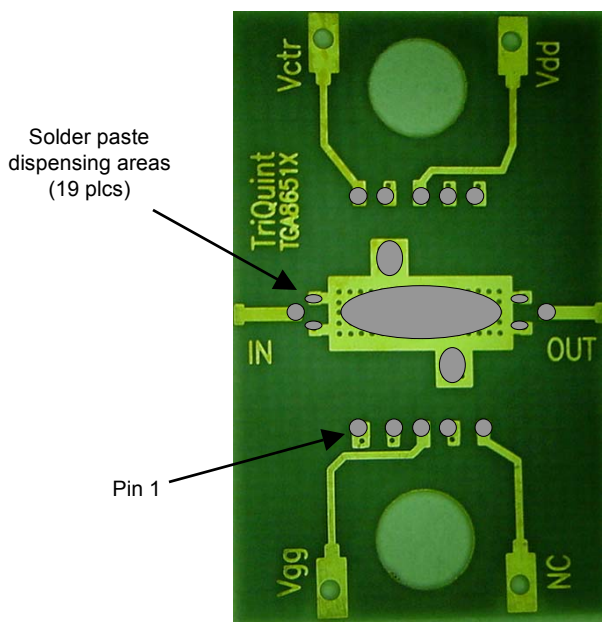

Figure 1: Solder paste dispensing pattern used on the evaluation board motherboard.
2. Using a standard SN63 solder paste, such as Kester SN63 R-560, dispense solder paste dots of 5 to 15 mil in diameter to the motherboard as shown in the example motherboard in Figure 1 below. Assume that there is a minimum of 5 mils and a maximum of 10 mils between the edge of each solder paste area and the closest edge of the ground pad.